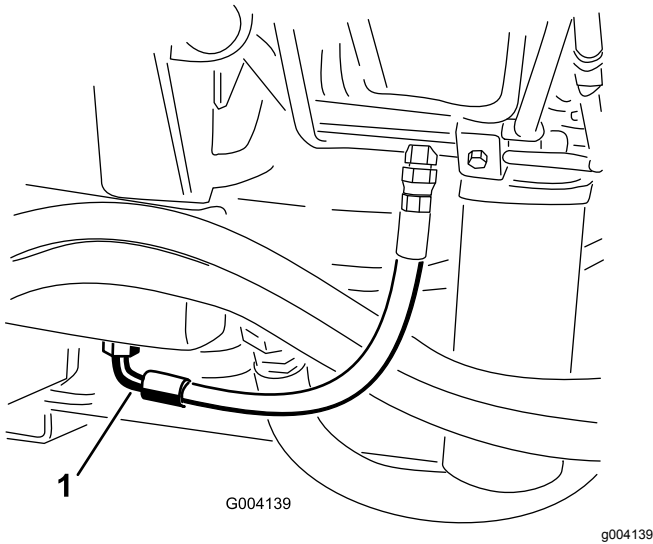

Figure 70
2. Place a large drain pan under the fitting secured to the bottom of the hydraulic fluid reservoir (Figure 70).